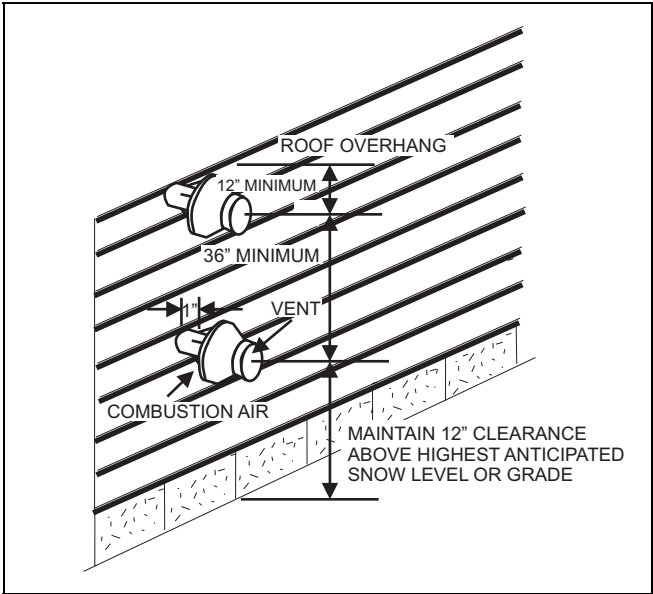

FIGURE 4 - Sidewall Termination for Multiple Vertical Concentric Vent
- B. If venting multiple units using multiple concentric vents, refer to Figures 4, 5 & 6 for specific clearances.
NOTE: Maintain clearance dimensions as shown in Figure 4, 5, 6 & 7.